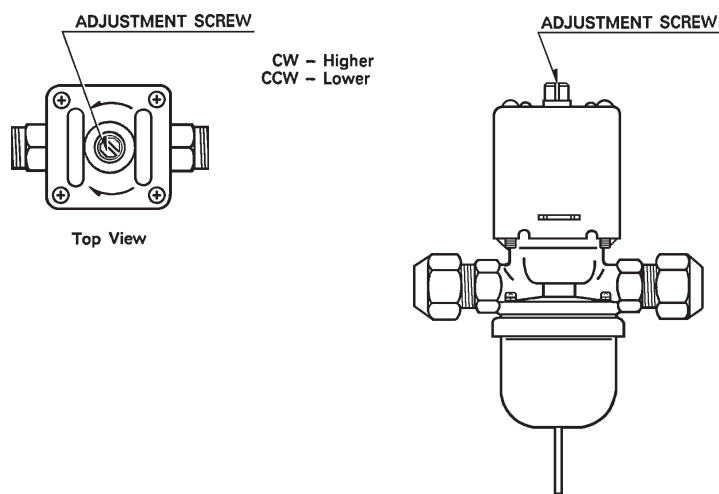

Fig. 1
- 2) Rotate the adjustment screw by using a flat blade screwdriver, so that the pressure gauge shows 270 PSIG or the thermometer reads 104-115°F, 5 minutes after a freeze cycle or icemaking process starts. When the pressure exceeds 270 PSIG, or the condenser drain temperature exceeds 115° F, rotate the adjustment screw counterclockwise. See Fig. 1.